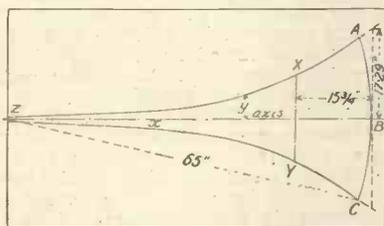
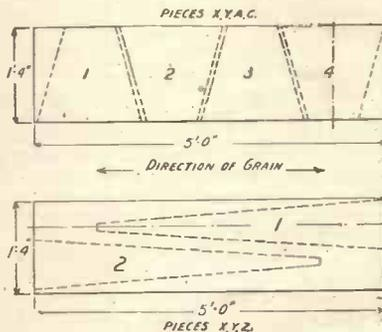

Fig. 2.—Dimensions of the horn.
Fig. 3.—Cutting out the parts.
largely owing to its unusual axial length, viz., 65 in., and centre (Z) on the axis at the small end, see Fig. 2. Cut away the rest of the paper to the right of the arc and we are ready to cut the plywood to the pattern just obtained (Fig. 2).
The curve itself is best obtained by inserting pins in the above points, and running a cotton along tied to the end pin and touching all the others. By running one's eye along the cotton, other pins, as many as considered necessary, can be inserted to give a better approximation to the desired curve. When both curves have been obtained in this way, lines joining consecutive pin holes can be drawn, and the curves cut out. The horn has a much more finished appearance if the wide end of each face is slightly curved. This can be done with a pencil and string, by striking an arc ABC of radius the axial length, viz., 65 in., and centre (Z) on the axis at the small end, see Fig. 2. Cut away the rest of the paper to the right of the arc and we are ready to cut the plywood to the pattern just obtained (Fig. 2).
however, the plywood was supplied in sheets 5 ft. x 16 in., three of these sheets being necessary, and it was found economical to make each face in two pieces, joined along the line XY in a manner to be described later. The three-sided piece (XYZ) was cut with the grain parallel to the axis, whilst the remaining piece (XYAC) was cut with the grain running perpendicular to the axis. Fig. 2 shows the lay-out of the pieces XYAC, four of which will be required, and Fig. 3 shows the lay-out of the pieces ZXY, of which four will be required also.